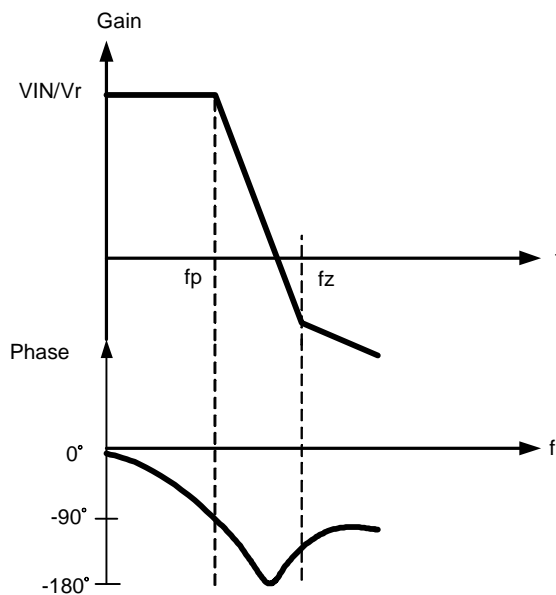

Figure 7. The Bode plot of Buck power stage
The transfer function of Equation (20) is a second order system and Bode plot is shown in Figure 7.
In Figure 7, the resonance of the output LC filter produces a double pole and -40dB/decade slop. The resonance frequency is expressed as follows :